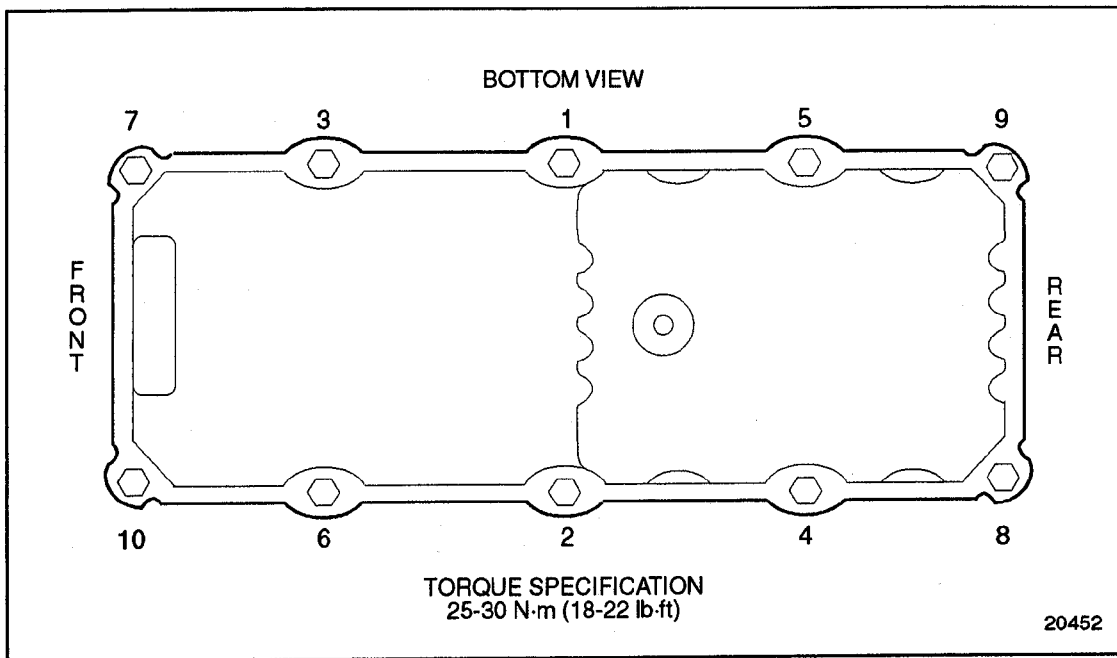

Figure 3-42 Oil Pan Bolt Sequence
8. Ensure that the isolator seal has not been disturbed. Torque the ten oil pan bolt assemblies to 24-30 N·m (18-22 lb·ft), using the proper sequence. See Figure 3-42.